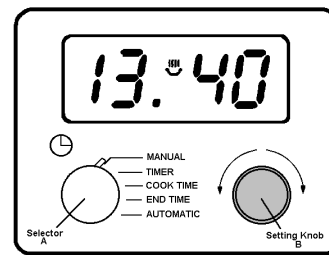

Fig.5
At the end of the timed period, the timer will sound. To stop the sound, turn setting knob (B). The display will show the time of day and the cooking symbol will remain lit. If the signal is not cancelled the timer will sound for up to 2 minutes. Fig. 5.